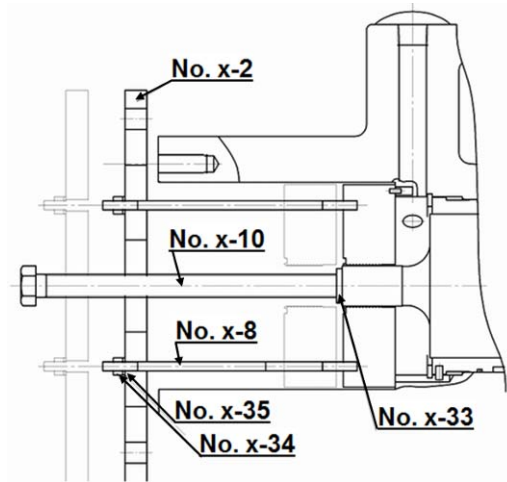

Figure 5-8 Special Tools for Balance Piston Sleeve (F) of GH250S/L
If it is impossible to pull out the balance piston sleeve only with M8 eyebolts, remove it using the special tools (refer to Table 5-9) as shown in Figure 5-8
1. Attach special tools to the balance piston sleeve (F) with referring to Figure 5-8.
2. Screw hexagon head bolt (x-10) until the balance piston sleeve (F) is removed from the Female rotor [26].